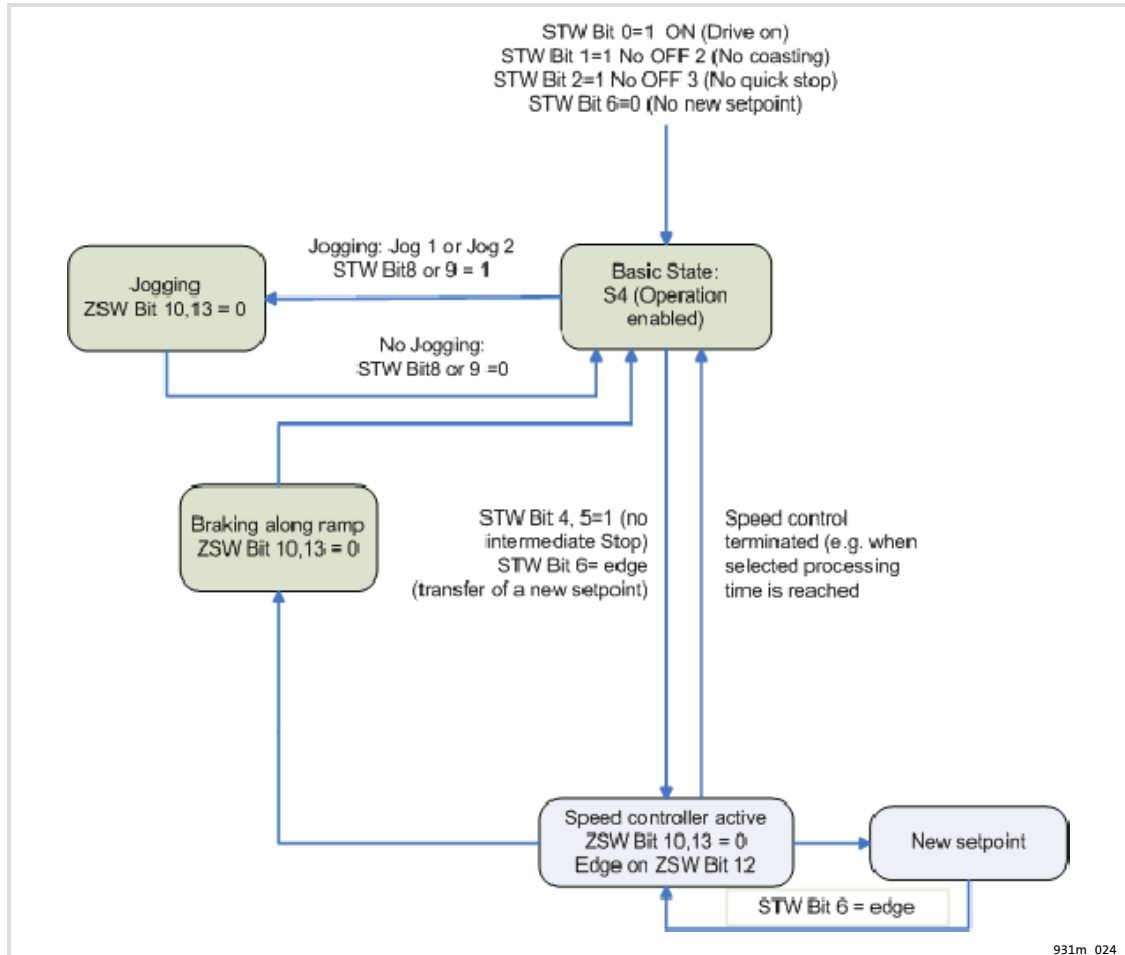

Fig. 3 State machine in the "speed control" mode
Fig. 3 shows the state machine for a speed-controlled drive in the basic state S4 "Operation enabled". Many functions of the illustrations shown are similar to the ones of section (38) so that only deviant functions shall be explained here.